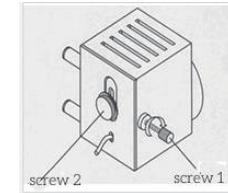

Figure 6.5 Adjusting screws
- 8) Observe the micrometer eyepiece, tighten and adjust screw 1 clockwise to ensure uniform light in the field of view. (If necessary, loosen and adjust screw 2 up and down.) See Figure 6.5